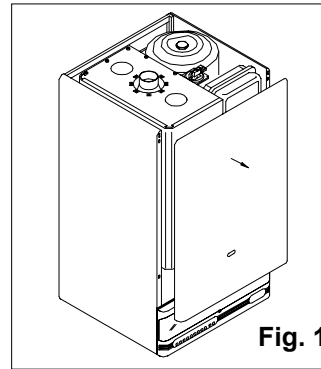

Fig. 1
- Remove the boiler front casing in the direction of the arrows (see fig.1).